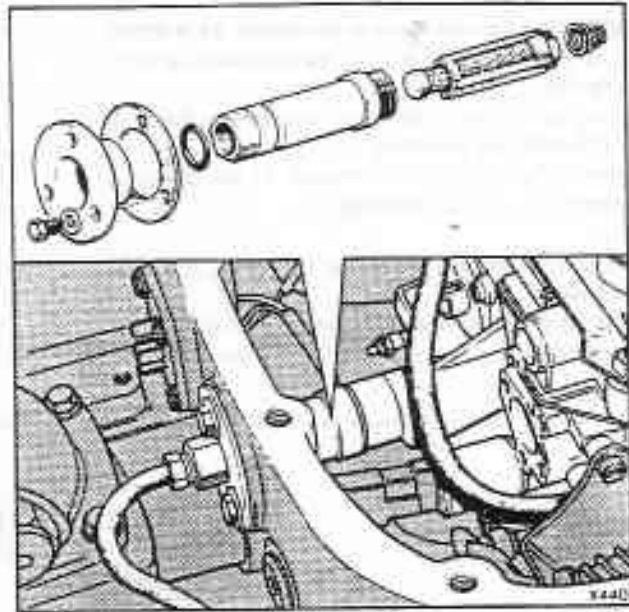

Fig. K11-39 Carburettor fuel inlet assembly
From the front of the air chest (see figs. K11-39 and K11-40)
3. Disconnect the fuel pipe from the front of the air chest (see fig. K11-39). Unscrew the three small setscrews securing the guide plate to the air chest, collect the washer fitted to each setscrew. Withdraw the plate and collect the gasket.